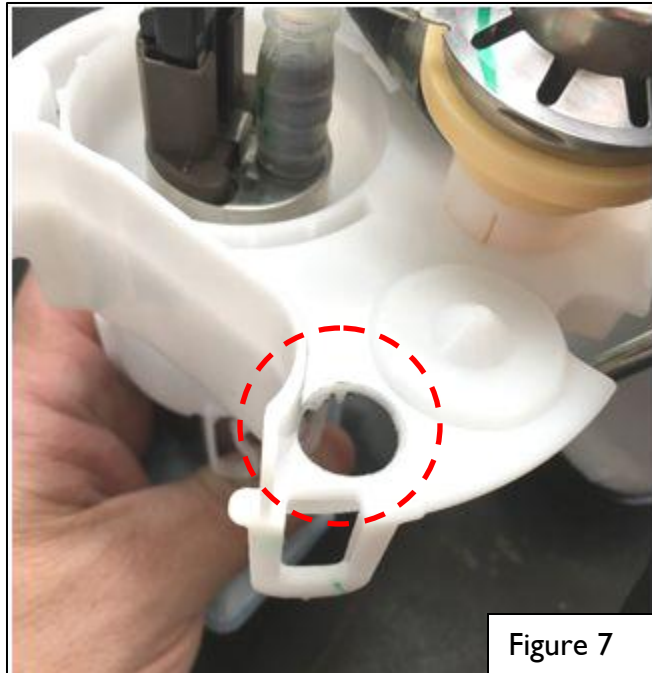

Figure 7
8. With the top removed, drill a 1/2" hole in the top at the location shown in Figure 7.